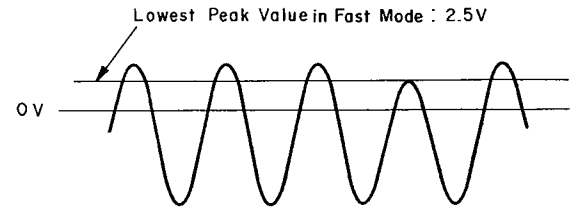

Fig. 4.7
- (d) Set the N-700ZXL in Fast (F.F. or Rewind) mode, then adjust VR506 on the Main Logic P.C.B. Ass'y so that the lowest plus peak value of waveforms does not lower than 2.5 V DC as shown in Fig. 4.7.